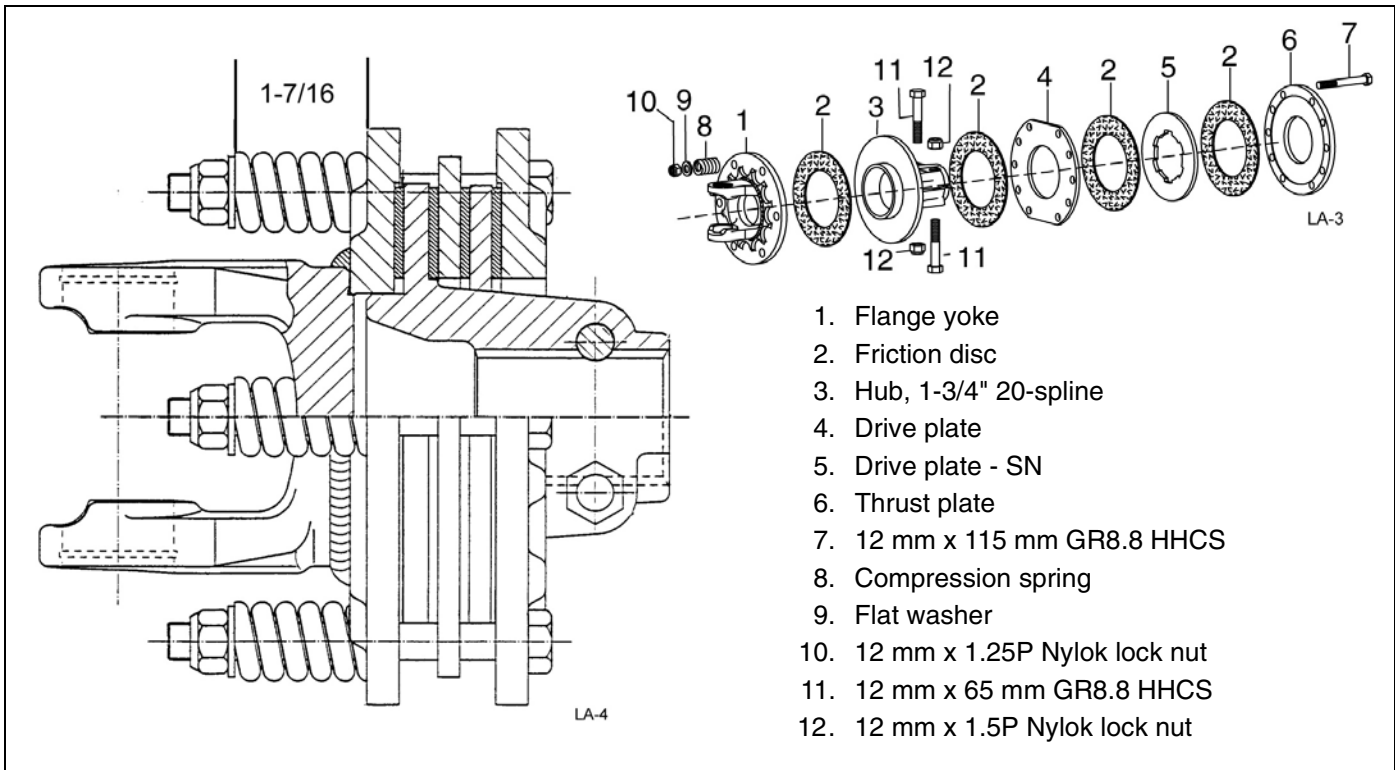

Figure 13. Slip Clutch Assembly
3. Loosen six 12 mm cap screws (7) to remove all tension from compression spring (8).
4. Hold clutch hub (3) solid and turn shaft to make sure clutch slips.
5. If clutch does not slip freely, disassemble and clean the flange yoke (1), clutch hub (3), drive plate (5), and thrust plate faces (6).
7. Compress each of the six compression springs (8) by tightening the six cap screws (7) and lock nuts (10). The compression springs should be compressed to a height of 1-7/16", not including
washer (9). The minimum spring height is 1.36". See Figure 13.
8. If a clutch continues to slip when the springs are compressed to 1.36", check friction discs (2) for excessive wear. Discs are 1/8" when new. Replace discs after 1/16" wear. Minimum disc thickness is 1/16".